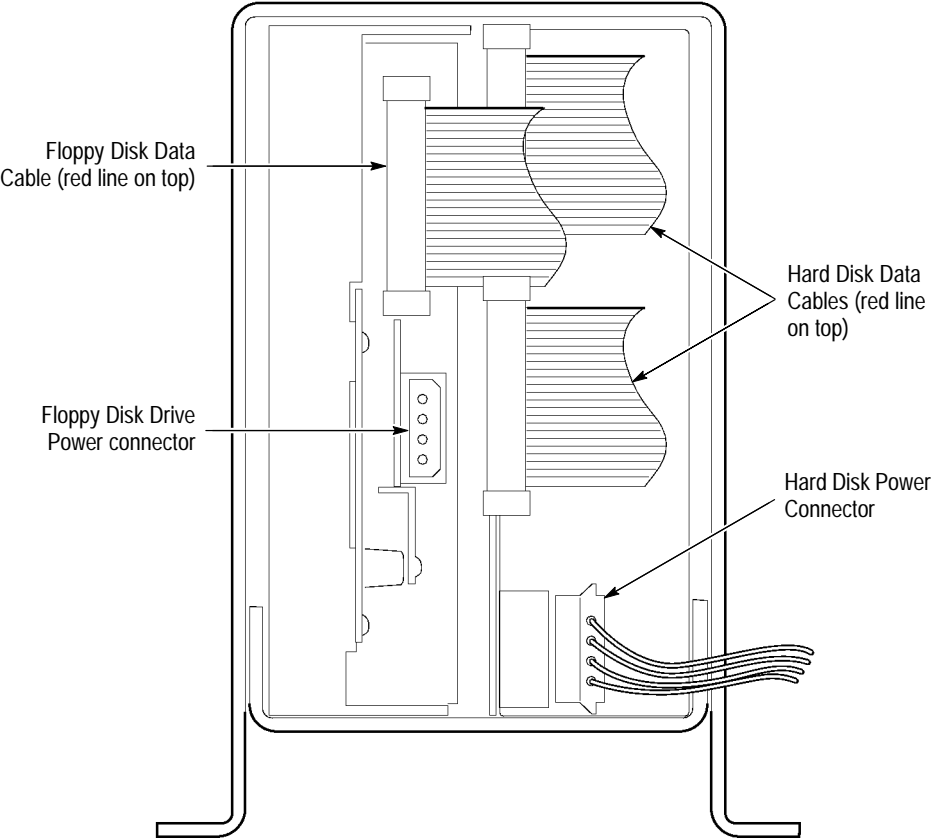

Figure 3-6: Typical Cable Connections for Fixed-Mount Hard and Floppy Disk Drives for DAS 9219 and DAS 9220 Mainframes
2. Attach the data and controller cables to the floppy disk drive and hard-disk connectors. Figures 3-6 and 3-7 show the correct connector and cable arrangements for each mainframe.